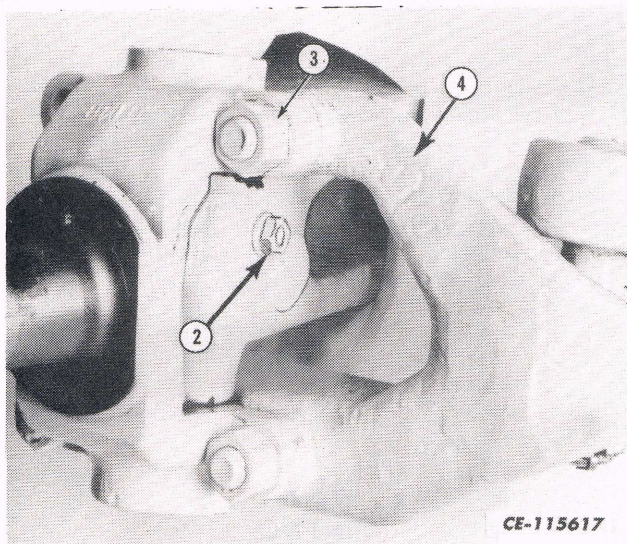

Fig. 3
4. Loosen the bolts (3) holding the steering knuckle to the steering arm (4). Refer to Fig. 3.
5. Loosen the king pin draw key hex nut (2) enough to be able to tap the nut with a soft mallet and move the key off its seat. Remove the nut and lock washer. Refer to Fig. 3.